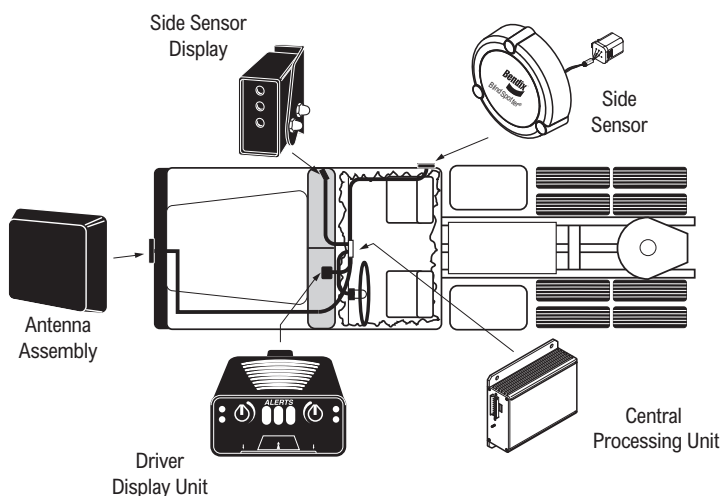

Figure 2
The Side Sensor is also a radar device that senses objects from two (2) to ten (10) feet (.6 - 3 m) from the side of the vehicle in a blind spot area on either side of the vehicle. This information is provided to the Central Processing Unit for processing; to activate the illumination of appropriate indicator lamps; and to sound appropriate alarms. Side Sensor(s) are generally mounted on the right side of the vehicle, at or near a blind spot area (see figure 2). The vehicle can be configured to have a Side Sensor on each side, left or right, or with two sensors located on the same side.
The Side Sensor Display is generally mounted to the right side A-pillar (see figure 2) on the inside of the vehicle, easily visible by the driver, and usually along the same line-of-sight as the side mirror.